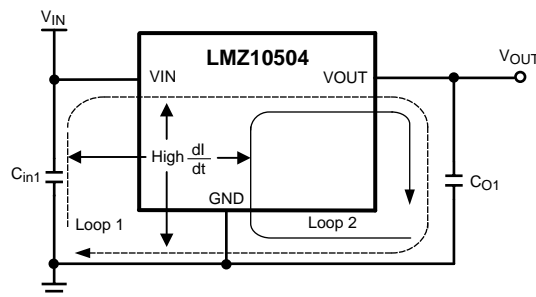

Figure 21. High Current Loops
From an EMI reduction standpoint, it is imperative to minimize the high di/dt current paths. The high current that does not overlap contains high di/dt , see Figure 21. Therefore physically place input capacitor (C_{in1}) as close as possible to the LMZ10504 VIN pin and GND exposed pad to avoid observable high frequency noise on the output pin. This will minimize the high di/dt area and reduce radiated EMI. Additionally, grounding for both the input and output capacitor should consist of a localized top side plane that connects to the GND exposed pad (EP).